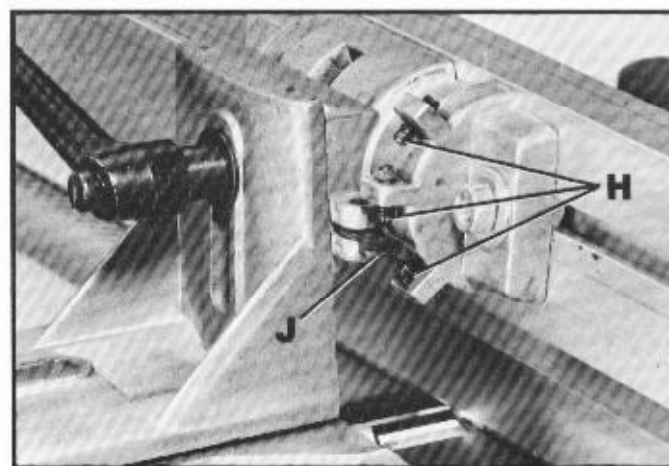
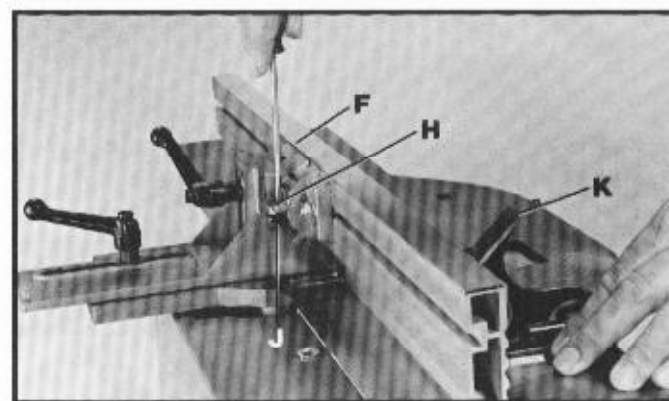

Fig. 27
Fig. 28
The fence on the jointer features adjustable positive stops (H) Fig. 27, and a stop link (J), at the most used fence positions of 90 degrees and 45 degrees right and left. Check the fence angle at 90 degrees with a square (K), as shown in Fig. 28. If an adjustment is necessary, turn the set screw (H) in or out until it contacts the stop link when the fence is at 90 degrees to the table.